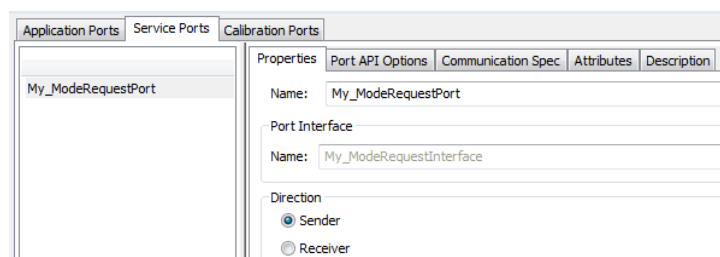

Figure 4-52 My_ModeRequestPort
- A service P-Port prototype referencing this port interface is created on the SWC (Figure 4-52).